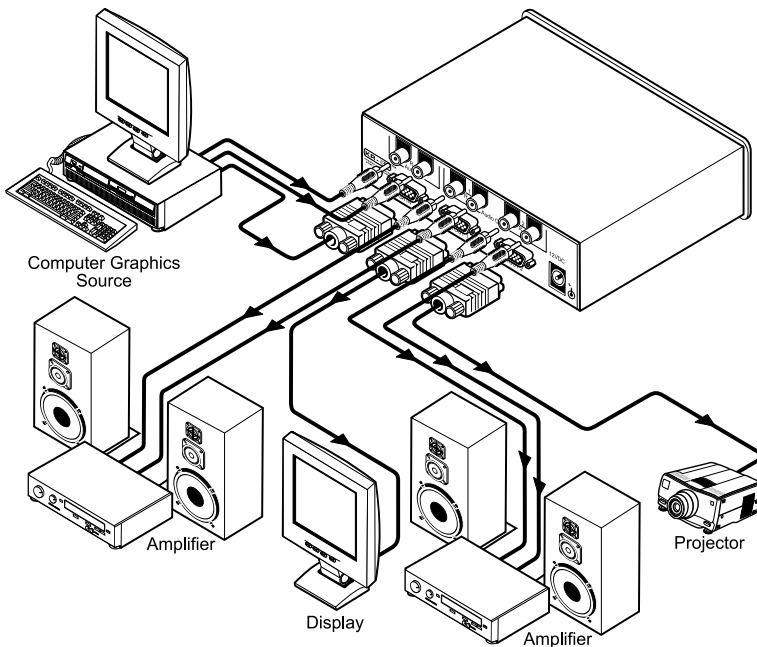

Figure 3: Connecting the VP-2XLK 1:2 UXGA / Audio Distributor
To connect the **VP-2XLK**, as the example in Figure 3 illustrates:
3. Connect the 12V DC power adapter to the power socket and connect the adapter to the mains electricity (not illustrated in Figure 3).